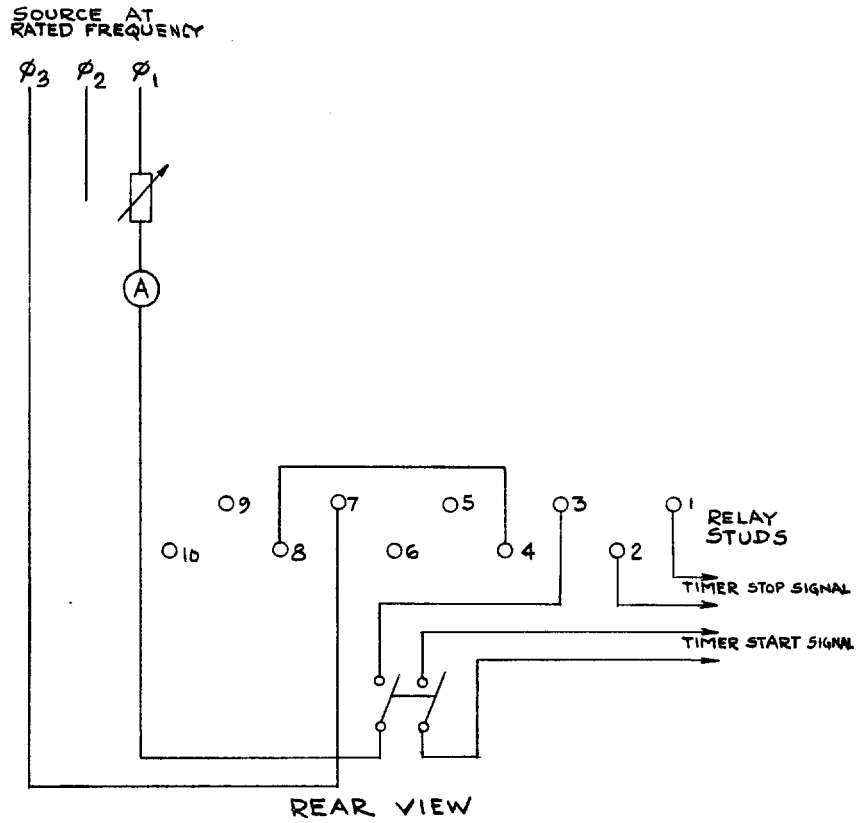

Fig. 6 (0165A7583-0) Laboratory Test Connections For Timing Test Of Relay Type INC51A
5. With the tap screws in 1.5 positions check the pick up with (a) switches S1 and S2 closed and then (B) with switches S2 and S3 closed. The pick up in each case should be the same as the pick up in the test when switch S1 and S3 were closed.
6. With the relay connected as shown in Fig. 6, the dial in the No. 5 position and the tap screws in the 1.5A positions adjust the circuit so that the current flowing thru the ammeter is as listed in Table D. Check the contact closing time of the overcurrent unit which should agree with values given in Table D.
7. Using connections shown in Fig. 6, omit the timer connections and connect a DC power source thru a suitable variable resistor, and an ammeter to studs 1 and 2. Check that the seal-in unit picks up at approximately the nominal rating of each of the coil taps, and check that the target operates correctly.